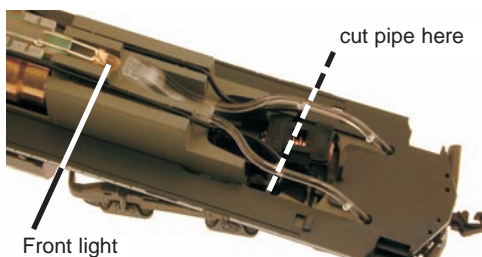

Figure 5. Light pipe modification
2. Cut the light pipe assembly as shown in **Figure 5**. You will end up with two separate light pipes: one for each of the ditch lights.